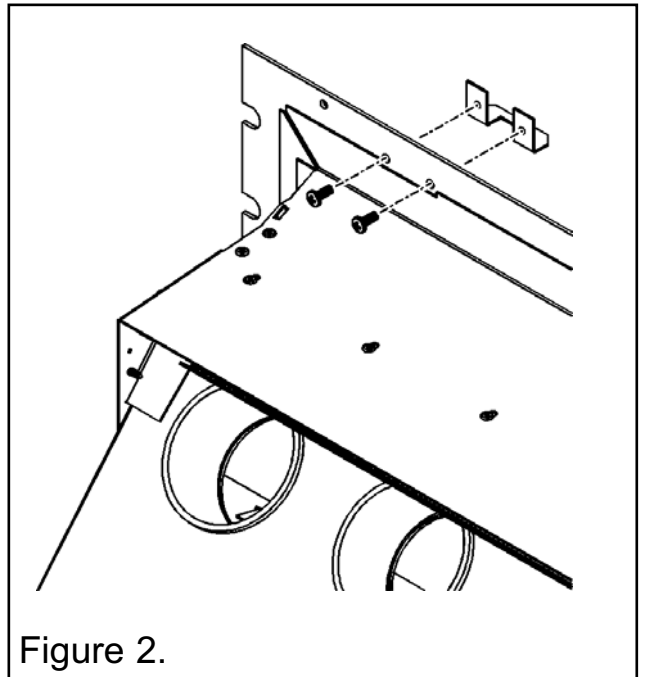

Figure 2.
- Locate and secure the fascia hanging brackets to the convector box top using four 8 x 1/4 screws supplied. Please note that the brackets are secured from the rear of the convector box flange. It is possible to fit the brackets incorrectly, please ensure that they are as in figure 2.